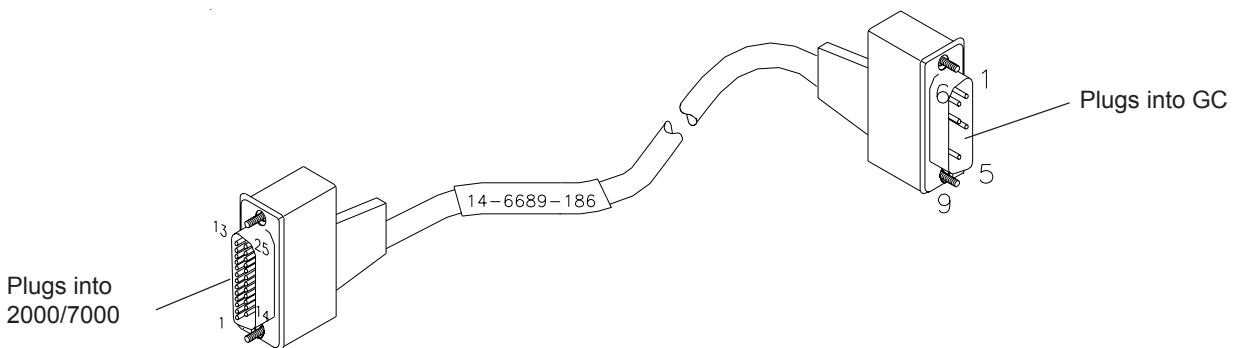

Figure 2 Tekmar-to-HP Cable for 2000 and 7000 w/ MSD
- c. Referring to Figure 2 below, set the switches. To open the switches, press them down at the open label.